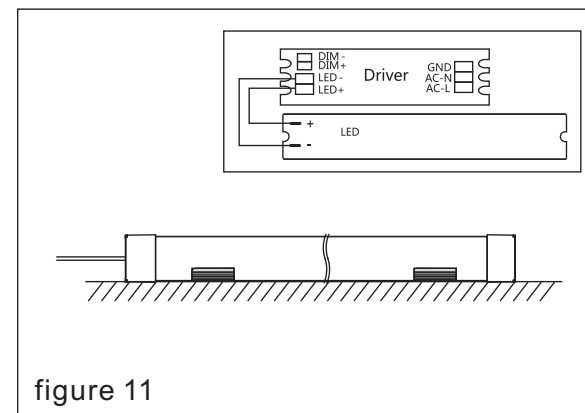

figure 11
(11) Connect the strip to the power supply (note the positive and negative poles) as Figure 11: